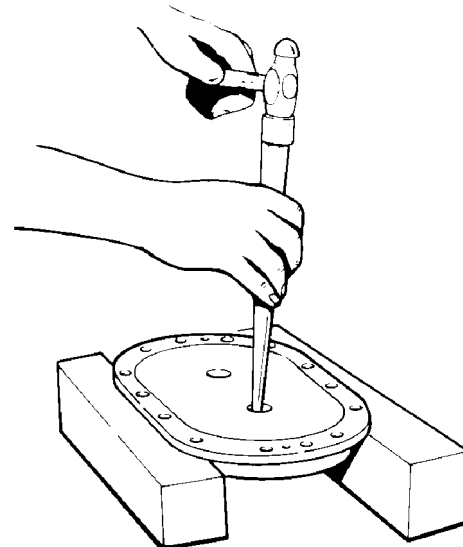

FIGURE 16
12. Remove the two drive end bearings (14) from the drive headplate (24) using a ball peen hammer and punch (see FIGURE 16, page 16).
13. Remove the drive end spacers (33), (34) and (41). The grease seals (15) can now be driven out of the drive headplate with hammer and punch (see FIGURE 16, page 16). Discard the seals as they will not be reused. Replace grease seals each time the headplate is removed.